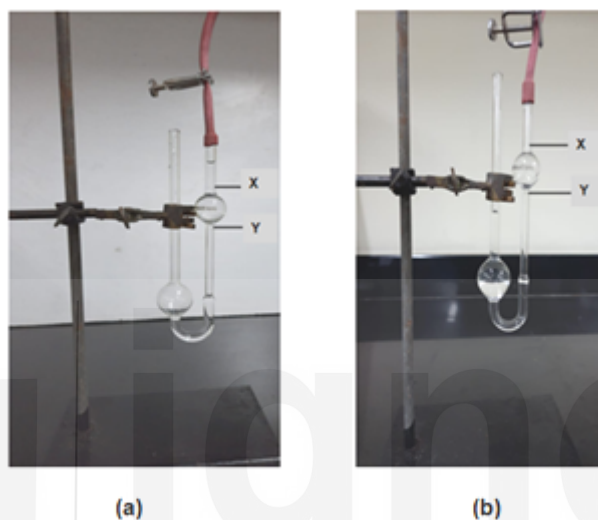

Fig. 8.4: Measurement of time for the flow of liquid
3. Now, introduce a definite volume of the given liquid (10 cm^3) into the bulb C, and suck the liquid up into the bulb A with the help of the rubber tube attached to the end D somewhere above the mark X, see Fig. 8.4 (a). Make sure there is no air bubble inside the liquid.
4. Now, allow the liquid to flow freely through the capillary up to the mark X. Start a stop watch note the time t_1 for the flow of the liquid from the mark X to the mark Y, see Fig. 8.4 (b).